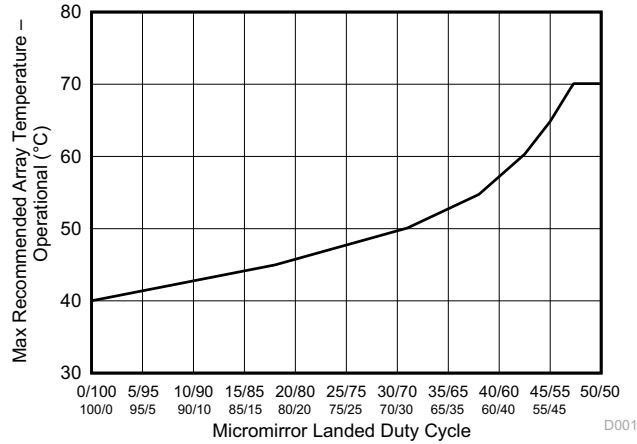

Figure 6-1. Maximum Recommended Array Temperature – Derating Curve
- (1) *Recommended Operating Conditions* are applicable after the DMD is installed in the final product.
- (2) The functional performance of the device specified in this datasheet is achieved when operating the device within the limits defined by the *Recommended Operating Conditions*. No level of performance is implied when operating the device above or below the *Recommended Operating Conditions* limits.
- (3) All voltage values are with respect to the ground pins (V_{SS}).
- (4) V_{OFFSET} supply transients must fall within specified max voltages.
- (5) To prevent excess current, the supply voltage delta |V_{DDI} – V_{DD}| must be less than specified limit.
- (6) To prevent excess current, the supply voltage delta |V_{BIAS} – V_{OFFSET}| must be less than the specified limit.
- (7) To prevent excess current, the supply voltage delta |V_{BIAS} – V_{RESET}| must be less than the specified limit.
- (8) LS_CLK must run as specified to ensure internal DMD timing for reset waveform commands.
- (9) Refer to the SubLVDS timing requirements in Section 6.7.
- (10) Refer to the LPSDR timing requirements in Section 6.7.
- (11) Per Figure 6-1, the maximum operational array temperature should be derated based on the micromirror landed duty cycle that the DMD experiences in the end application. Refer to Section 7.7 for a definition of micromirror landed duty cycle.
- (12) Long-term is defined as the usable life of the device.